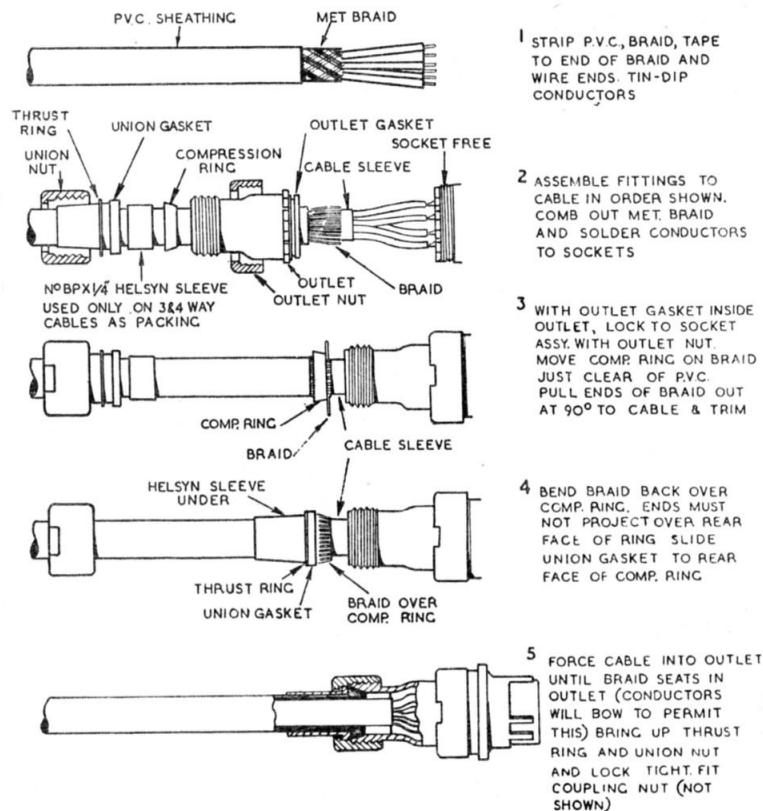

Fig. 10. Method of wiring plugs and sockets
pression ring, union gasket and rubber cable sleeve; these can be seen in fig. 10. The bonding clips shown in fig. 12 are required with 2kV units only.
19. Fig. 10 illustrates the sequence of operations when wiring Mk. 4 miniature plugs and sockets with vinmetsmall and metvinsmall cables, and fig. 11 gives appropriate dimensions for stripping back the braiding, sheath and conductors. It is very important that the P.V.C. should not be stripped back too far, as this will result in a faulty outlet seal and permit the ingress of moisture. The cables should be drawn a sufficient distance through the appropriate outlet fittings to enable the soldering operation to be performed.